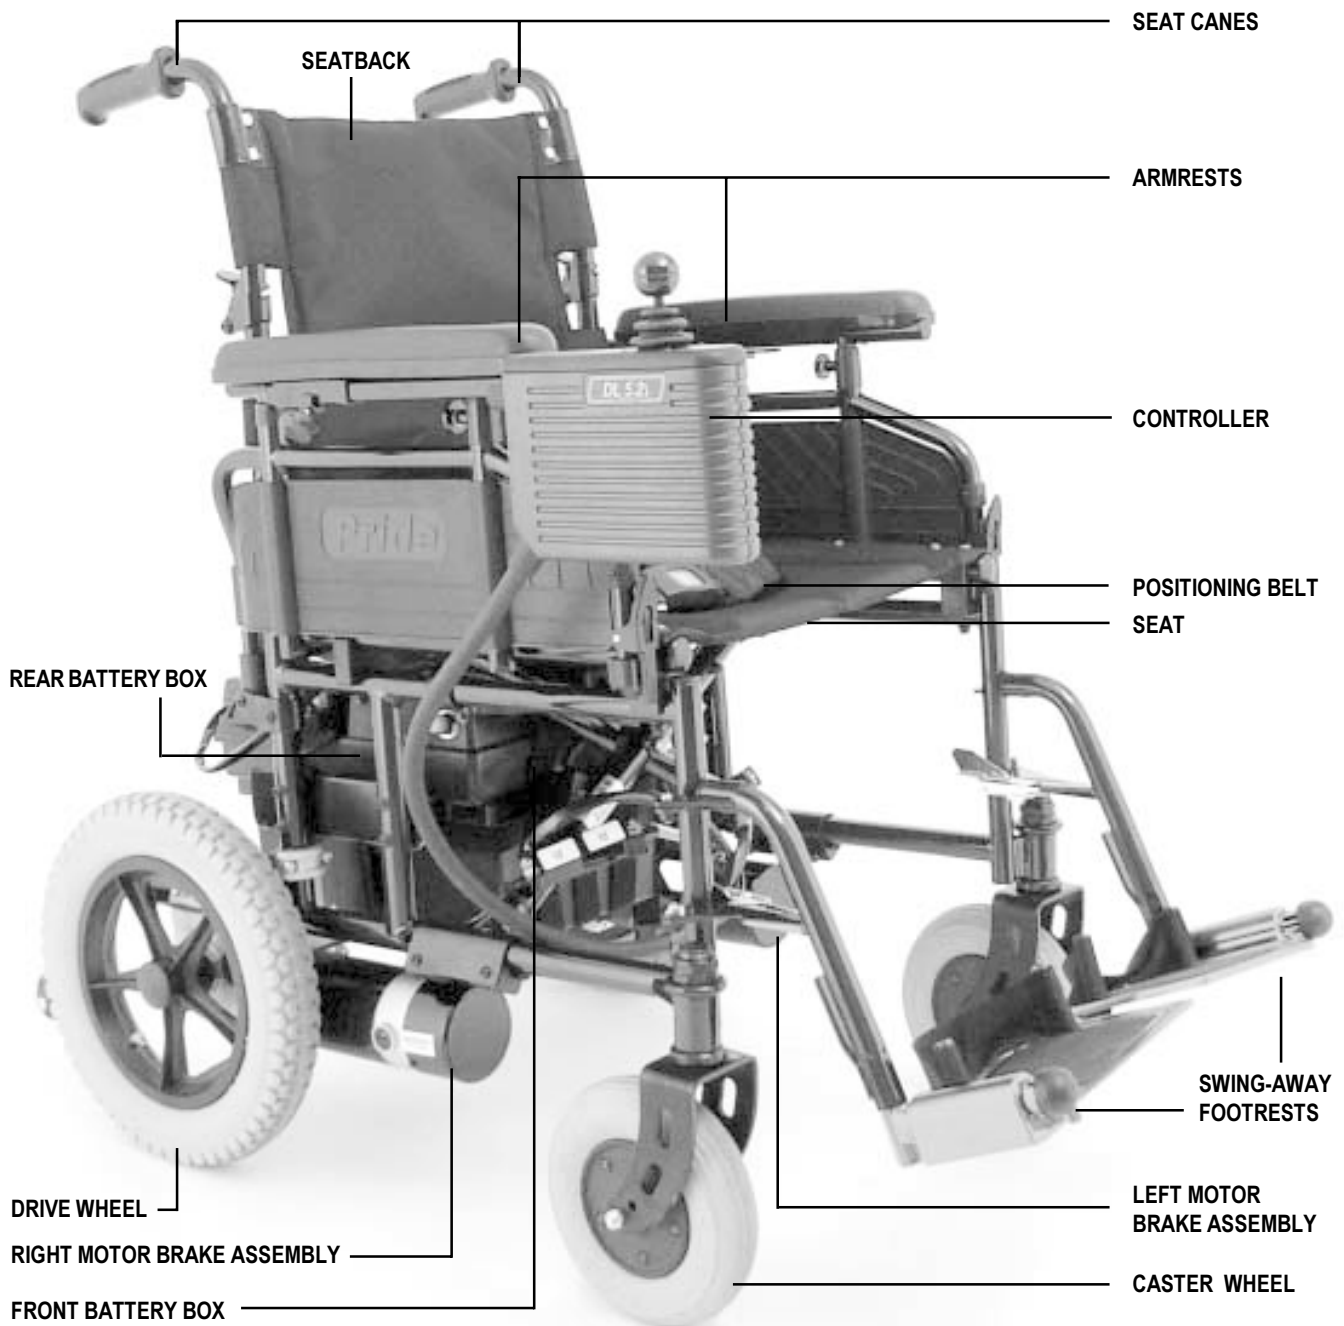

Figure 14. LX10 Assembled (LX11 and LX 12 are similar.)
1. Use a 4-mm hex key to remove the screws that attach the canes to the frame. See figures 14 and 23.